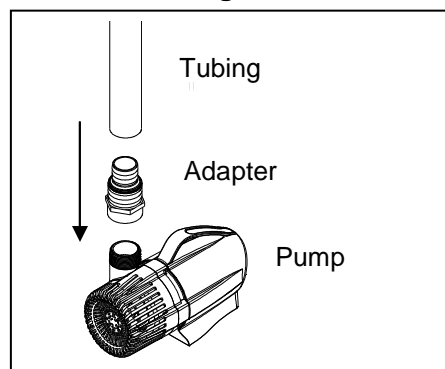

Fig. 2
2. Connect tubing to the outlet of the pump using an adapter. Fig. 2